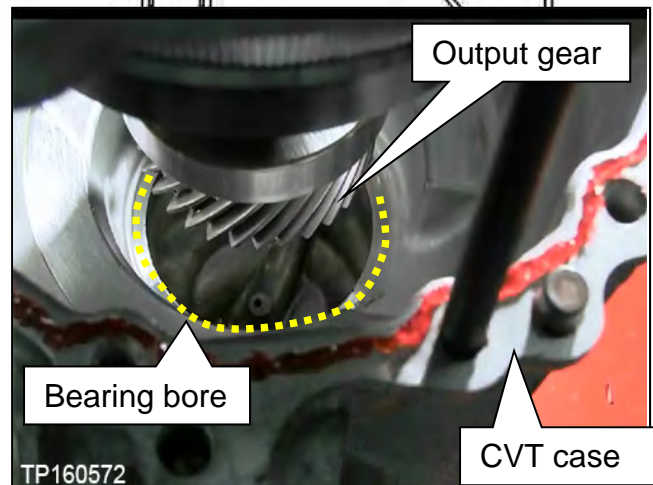

Figure 100
- Look into the bearing bore to confirm the output gear is centered (Figure 100).